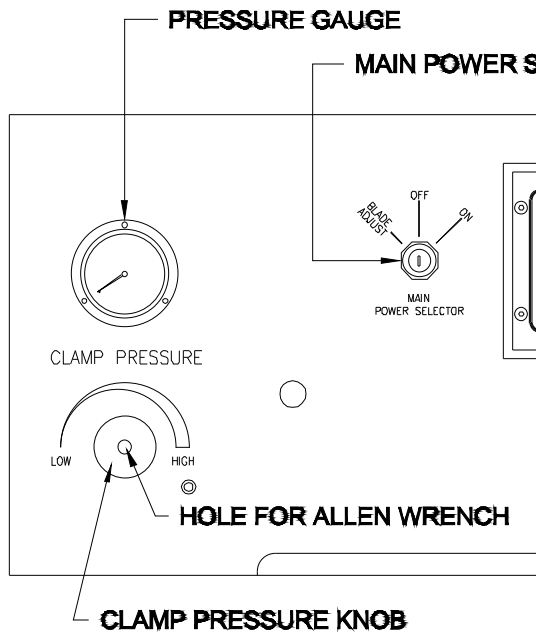

Fig 51
1. Remove the black “Clamp Pressure Knob” located on the front face of the cutter. If the “Clamp Pressure Knob” has “Hole for Allen Wrench” Fig. 51 proceed to step 2. If the “Clamp Pressure Knob” is as Fig. 52 proceed to steps 3 and 4.
2. The “Clamp Pressure Knob” will have two (2) set screws and a “Hole for Allen Wrench”. Using a 3/32” Allen wrench, loosen the setscrew recessed the furthest. Place a 1/4” Allen wrench in the “Hole for Allen Wrench”, into the “Remote Pressure Valve”. Hold the Allen wrench while turning the “Clamp Pressure Knob” counterclockwise. Proceed to step 5.
11. Reinstall the “Stop Collar” Fig. 52A or the “Clamp Pressure Knob” Fig. 51 assembly. Hold the stem while threading the “Stop Collar” or the “Clamp Pressure Knob”. Bottom the “Stop Collar” or the “Clamp Pressure Knob” to the “Remote Pressure Valve” body and tighten the setscrew.